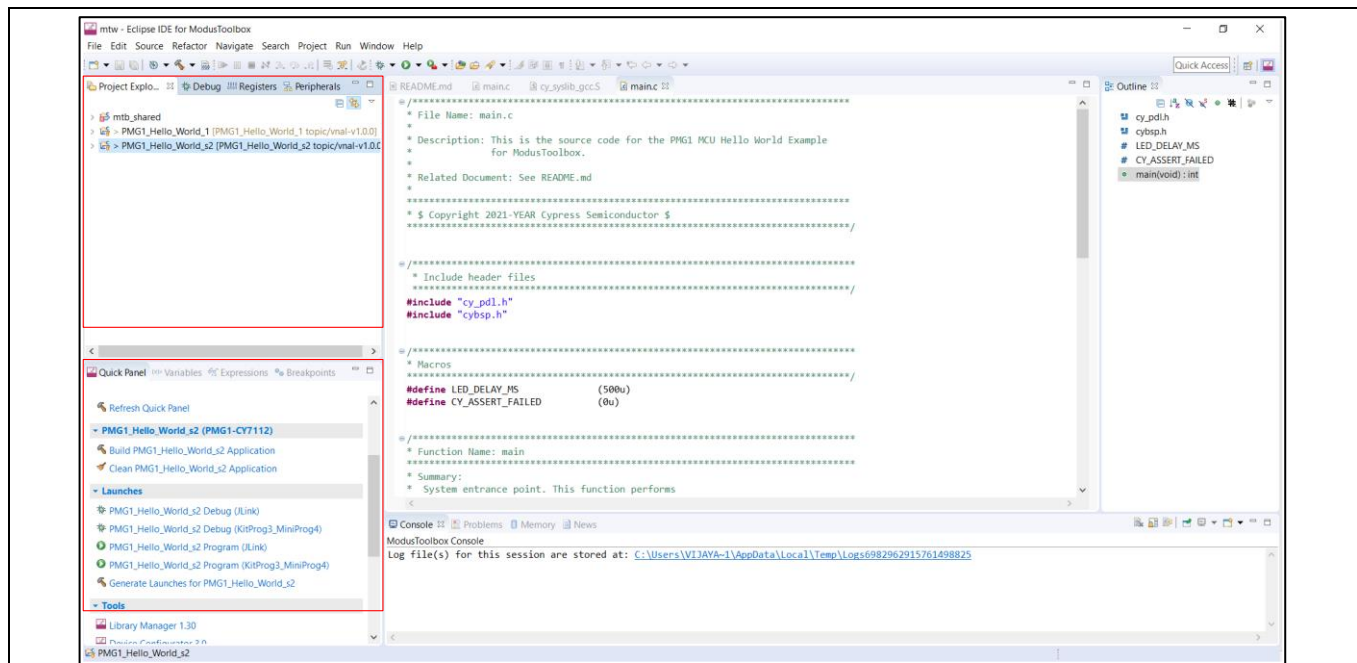

Figure 33 Eclipse IDE for ModusToolbox™ software
5. The Project Explorer on the IDE highlights the current active project as shown in **Figure 33**. If there are multiple projects, make sure to select the correct project.